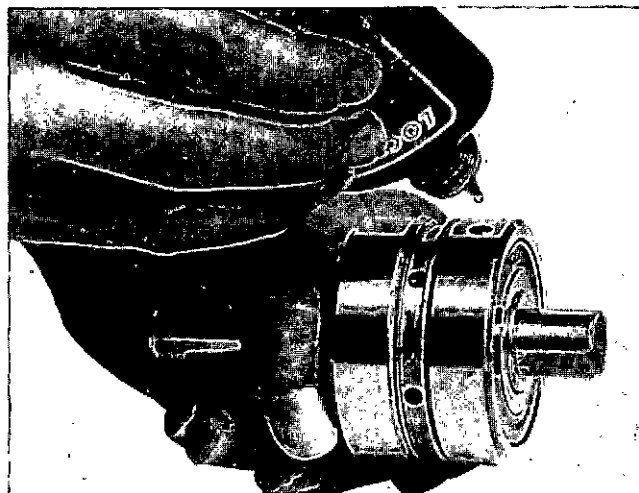

Fig. 8-9 (N10852). Apply Loctite Onto The Bearings.
4. Apply a thin coat of Loctite 601 to the outer race of the bearings, Fig. 8-9. To support the waterpump housing, put the impeller side of the housing on a mandrel. Use the ST-658 Mandrel to push the shaft and bearing assembly into the housing.